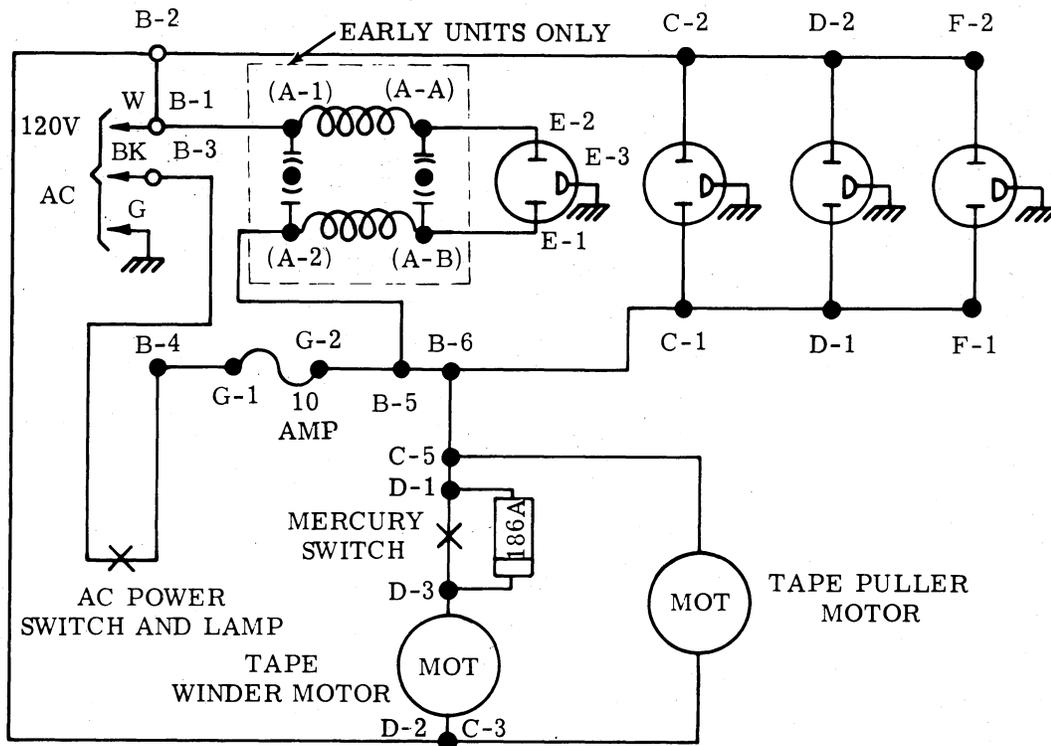

Figure 9 - AC Wiring for Receiver 5B
3.21 Aside from interconnections, cabinet circuits include a line filter (on electrical service panel), a power switch, and a tape winder (see Figure 9). The control panel switches and indicators are associated with the receiver module. The basic power requirements are, 4.5 amperes at 120 volts ac (103-127) while running and approximately 8 amperes when starting. The frequency requirement is 60 Hz (± 5 Hz). The maximum power required is approximately 950 watts.